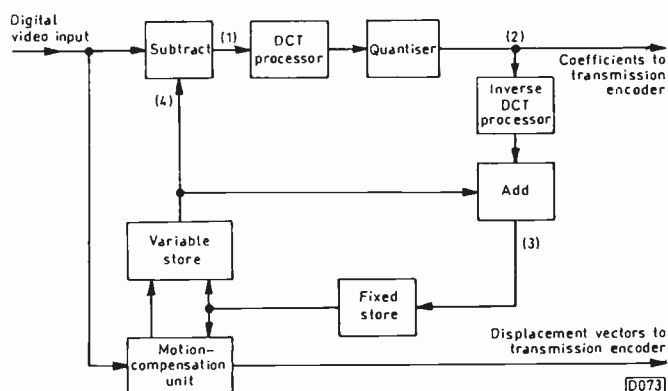
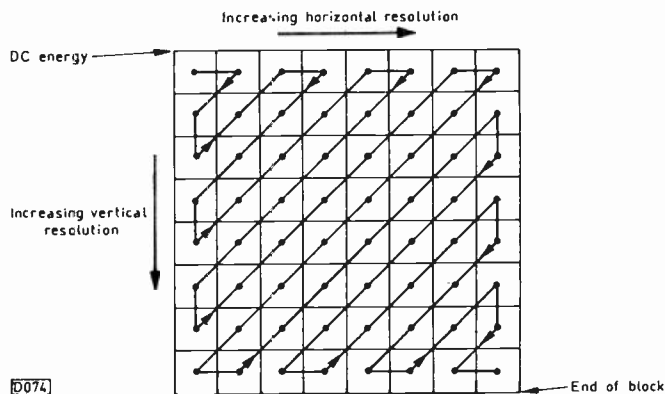

Fig. 2: Basic MPEG processing.
Fig. 3: Zigzag scan of an 8 x 8 pixel block.
The basic processing system is shown in Fig. 2, which shows how the previously coded image data (4) is subtracted from the current data to produce a difference image (1). The sampled YUV video signal components are processed separately but in the same way. The image is divided into 8 x 8 pixel blocks which are then DCT processed. The matrix values are next scanned in a zigzag fashion (see Fig. 3) to produce a serial bit stream. At this stage only the d.c. component and a few low spatial frequencies have any significant magnitude. The following quantisation stage sets all the very low values to zero and reduces the others to a set of preferred levels, further reducing the number of values that need to be transmitted.
The decoder in the receiver uses the DCT coefficient values and the motion vectors with a block matching technique to reconstruct the image, the process being similar to that shown in Fig. 2.
The information for the next frame is predicted and compared with the current frame data, only the differences being DCT coded. A good predictor is simply the previous frame. The output forms an 8 x 8 matrix of coefficients, of which the top left-hand element has a value that's twice the average of the 64 elements, representing the d.c. energy in the whole block. As Fig. 3 shows, the horizontal elements represent increasing horizontal frequencies in the original image while the vertical elements represent increasing vertical frequencies. The elements along the diagonals thus represent the energy in the diagonal frequencies. Generally the magnitude of these higher-order elements rapidly tends towards very small or zero values.
The quantisation stage sets all the small values to zero and reduces certain coefficients in an adaptive manner in accordance with a look-up table stored in a ROM. The matrix of coefficients is then scanned in the zigzag manner shown in Fig. 3. This leads to long runs of similar values, enabling amplitude/run-length coding to be used. This takes the form of a modified Huffman code, using a two-dimensional code book. If a block that ends with a long run of zeros is detected, an end-of-block code is added after the last non-zero value, providing further bit-rate compression.